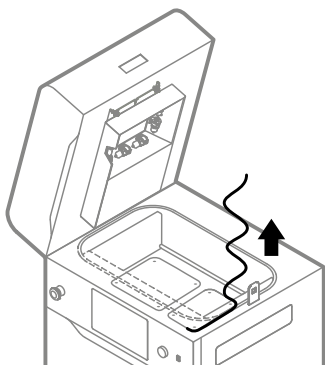

Fig. 12.24 Remove the used fibreglass rope from Print Bed.
17. Remove the used fibreglass rope around the Print Bed. You can use the metal spatula to help pull out the sealing (fig. 12.24).